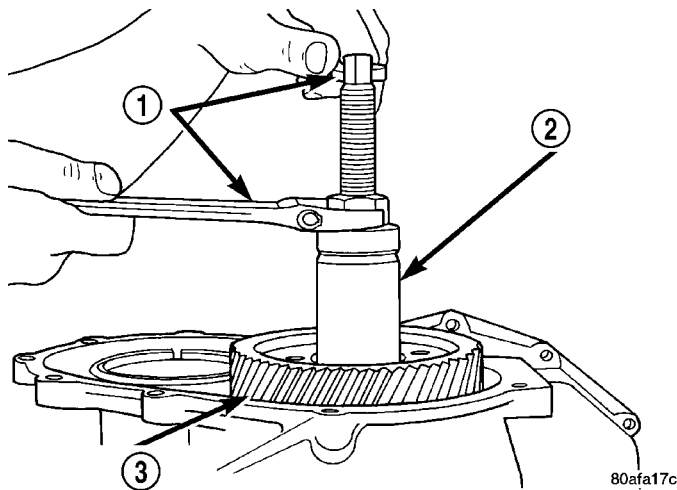

Fig. 102 Install Output Gear
(15) Install the output gear and bearing assembly using Tool 6261 (Fig. 102).